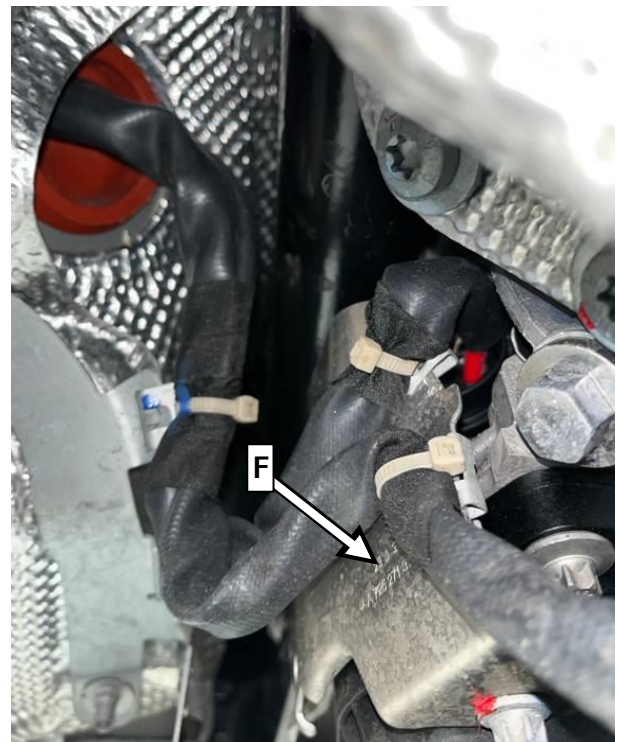

Figure 8
3. Remove protective metal sheet (Figure 8, F).